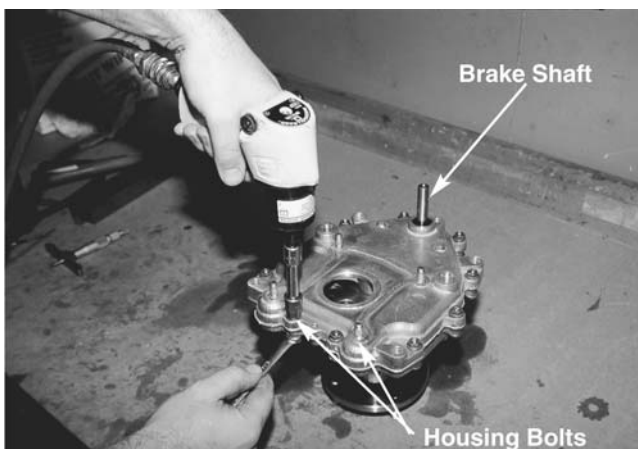

Figure 10-72.
32. Install the housing over the brake shaft, being careful with the seal, align the axle shaft with the bearing and press the two halves together. See Figure 10-72.